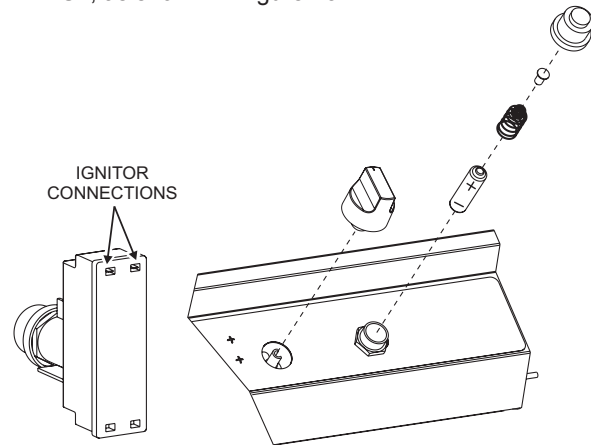

Figure 15
- Attach ground and igniter wires to the igniter as shown in Figure 15.
- Remove push button cap and insert AA battery, positive side UP, as shown in Figure 15.